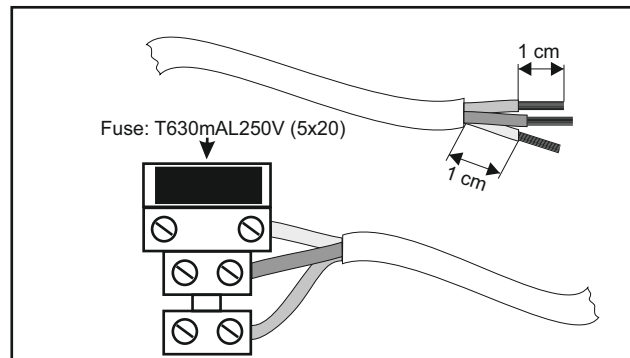

Figure 9. Panels connection with 220-240V AC
5. The diameter of the cable must be at least 1mm. (Figure 9)
6. The inner insulation of each cable must not be cut more than 1cm (Figure 9)